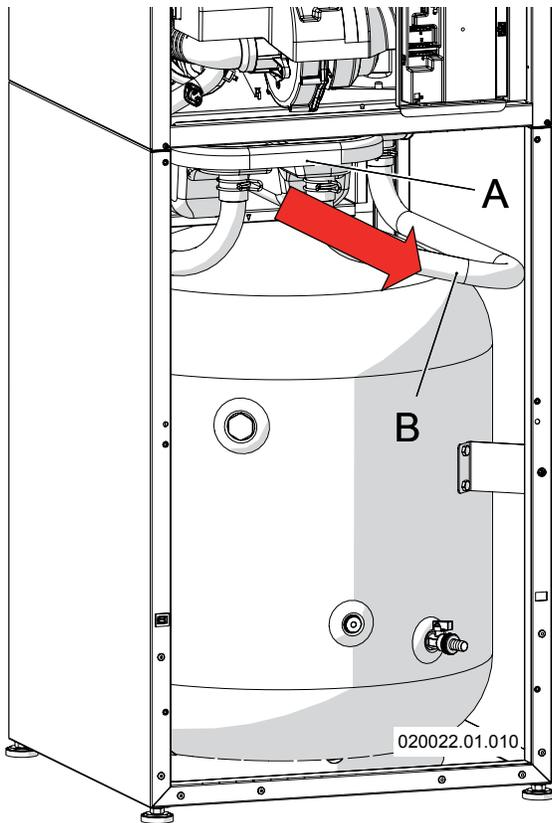

Figure 17-10 Condensate trap “B” and neutralizing box “A”
2. pull out for 2 inches the condensate box “A” (Figure 17-10);